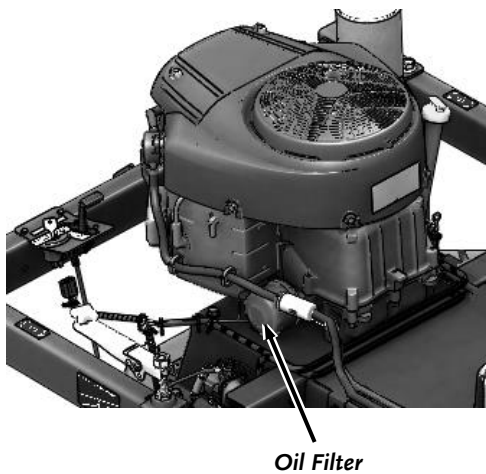

Figure 31
2. The Engine Oil Filter is located on the side of the Engine (**Figure 31**). Using an Oil Filter Wrench, or grasping the Oil Filter firmly with your hand, unscrew the Oil Filter counterclockwise from the Engine. **BE SURE THAT THE OLD FILTER GASKET COMES OFF WITH THE FILTER.**